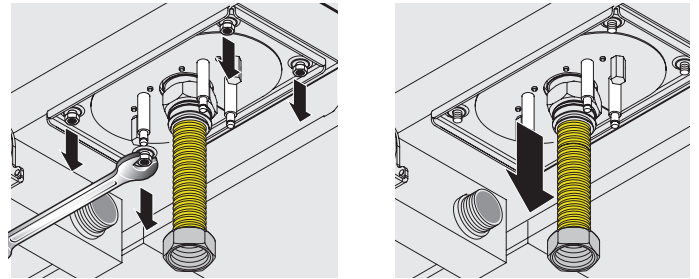

Figure 7
- c) Remove the four screws of the torch plate and the 2 or 3 rods nuts that hold each heat exchanger as shown in **Figure 7**.